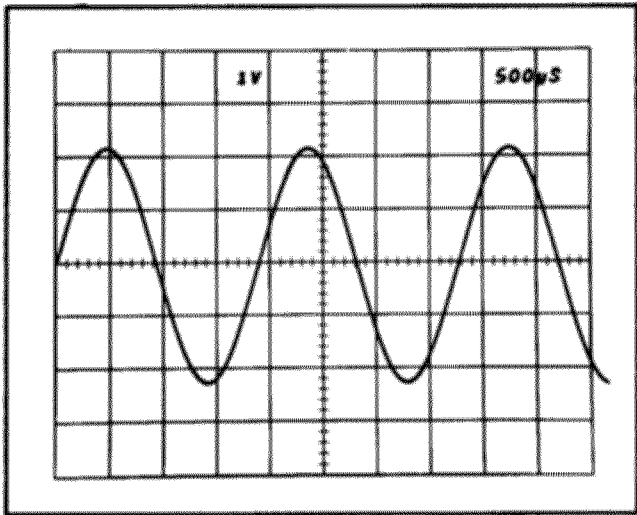

Fig. 3-26. Typical readout display where only channel 1 of the Right Vertical and Horizontal units is displayed.
**Display Format.** Up to six words of readout information can be displayed on the 7613 CRT. The position of each word is fixed and is directly related to the plug-in unit from which it originated. Fig. 3-24 shows the area of the graticule where the readout from each plug-in unit is displayed. Notice that channel 1 of each plug-in unit is displayed within the top division of the CRT and channel 2 is displayed directly below within the bottom division. Fig. 3-26 shows a typical display.